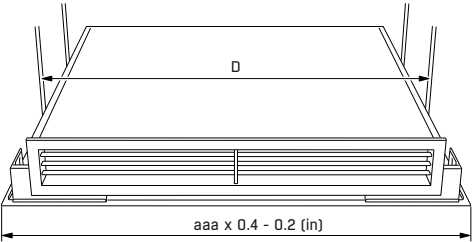

FIGURE 2. Front view of the ORION IQHA with suspension rods
- 1) Chilled beams shall be independently suspended from the structure above by four (4) threaded rods of 3/8" diameter. (See **FIGURE 2**) The upper end of the rods shall be suspended from brackets that are: